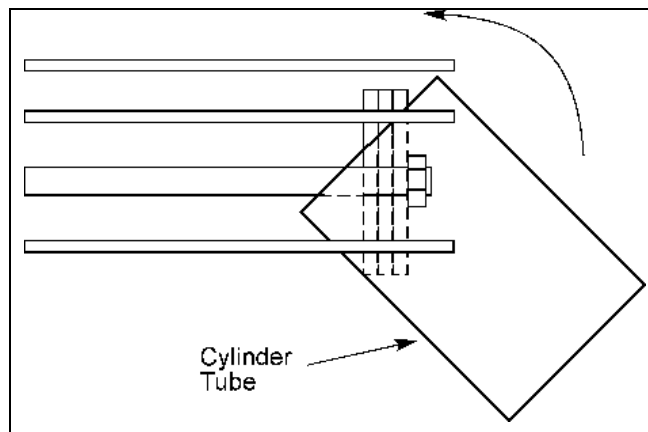

Figure 3—Installing Cylinder Tube
11. Lubricate the inside of the cylinder tube, then slide it onto the piston. Start the tube at a 45-degree angle and rotate the tube onto the piston. See Figure 3.